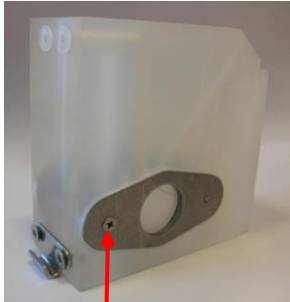

Figure 32
5. Remove both the sight glass holders (see figure 32).
11. Fix the sight glasses in place with the sight glass holders (see figure 32).